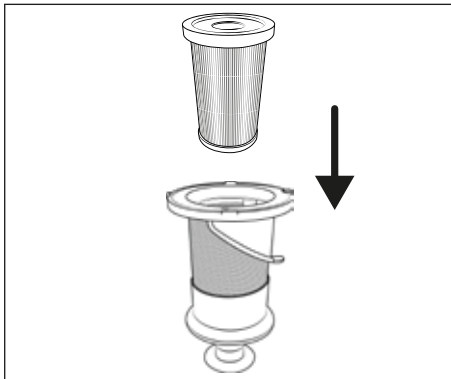

Fig. 22
- 7) Insert the HEPA filter **5** into the stainless steel filter **6** (see Fig. 22).